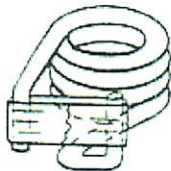

Figure 5a
2. Pre-load spring and bind using filament tape (see Figure 5a)